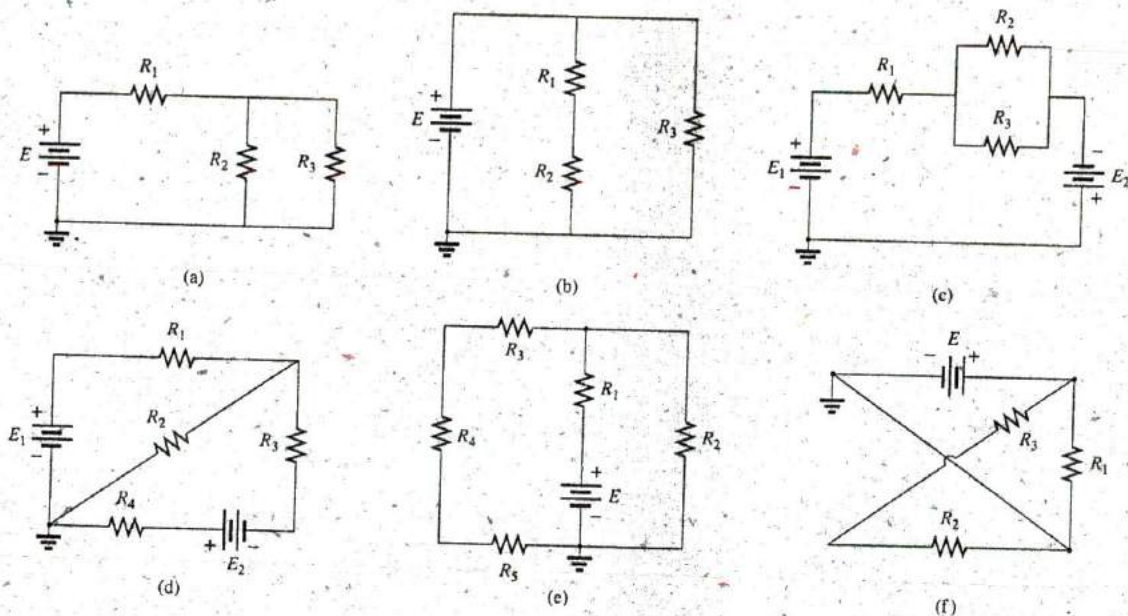

FIG. 5.85
1. For each configuration in Fig. 5.85, find the individual (not combinations of) elements (voltage sources and/or resistors) that are in series. If necessary, use the fact that